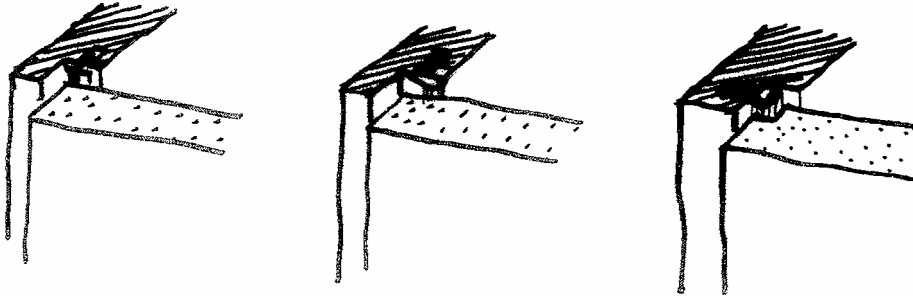

Figure 7.7 – Door sweeps and sealer strips to exterior doors
- ❖ **Adjust striking plate for door to close snugly.** *Fig7.7*